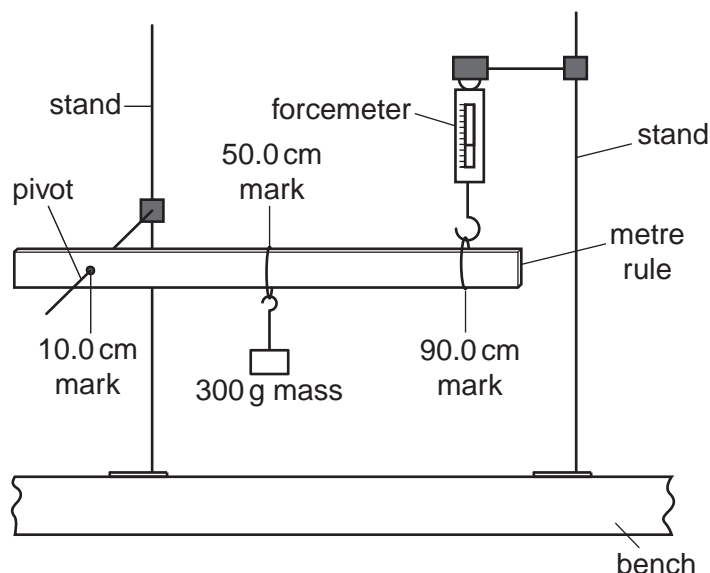

Fig. 1.1
3. The apparatus is to be set up for the candidates as shown in Fig. 1.1.
Check that the apparatus is arranged as shown in Fig. 1.1.